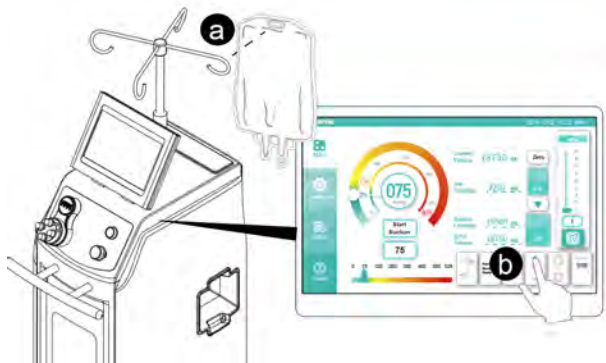

Figure 19 To Use the IV Pole
- a. Hang one irrigation bag on each IV pole hook, if required. The maximum volume allowed per hook is 3000 milliliters (Figure 19).